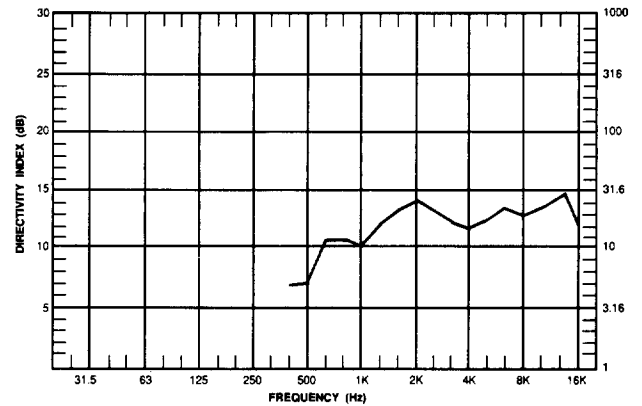

Figure 9. Q and Directivity Index
Mean Directivity (Q): 16.9 (+11.3, -11.9) Axis of maximum SPL, 500 Hz to 16 kHz (See Figure 9)
Mean Directivity Index (DI): 12.3 dB (+2.2 dB, -5.3 dB) Axis of maximum SPL, 500 Hz to 16 kHz (See Figure 9)